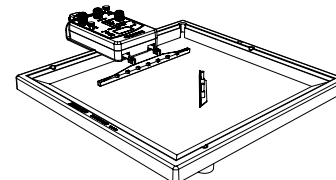

Figure 1.2: Position of Straight Barrier
- Arrange the long barrier in the middle of the tank so the barrier is at an angle to the plane wave dipper (see Figure 1.2).